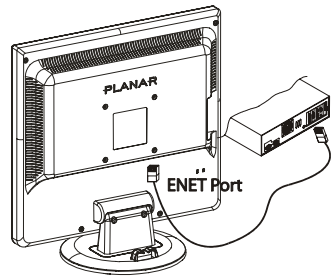

Figure 1-5
2. Connect one end of the Ethernet cable to the Network Display's Ethernet (ENET) port. (See Fig 1-5)